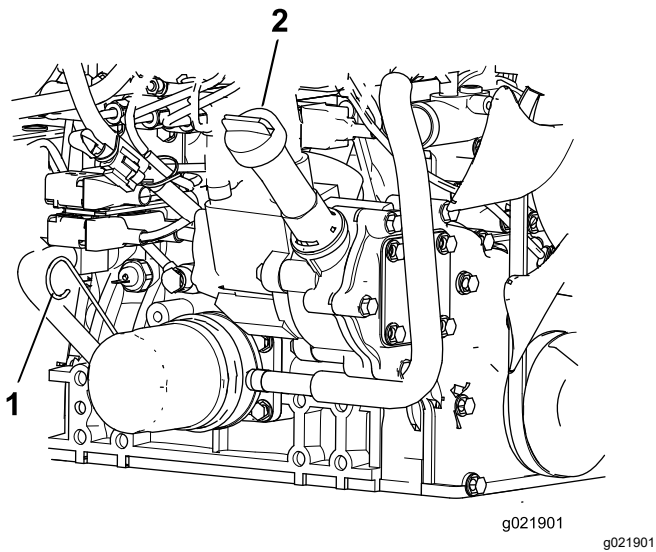

Figure 83
3. Remove the dipstick, wipe it clean, install the dipstick into the tube, and pull it out again. The oil level should be between the FULL and ADD marks (Figure 83).
4. If the oil level is low, remove the fill cap and add oil until it is between the FULL and ADD marks (Figure 83).